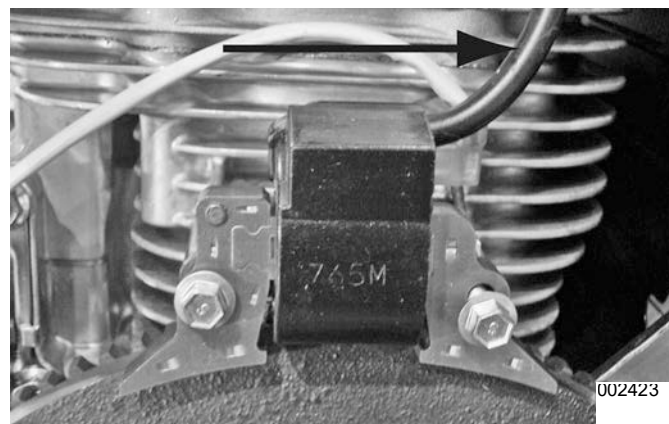

Figure 3-71. Cylinder One (Back, Short)
3. See Figure 3-71. Cylinder one is the back cylinder.